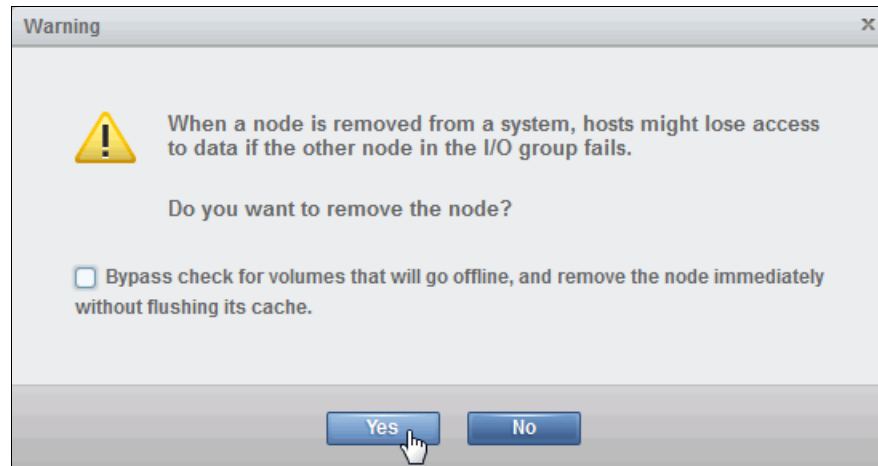

Figure 11-41 Remove node warning message
9. A warning message displays, as shown in Figure 11-41. Click **Yes** to continue.